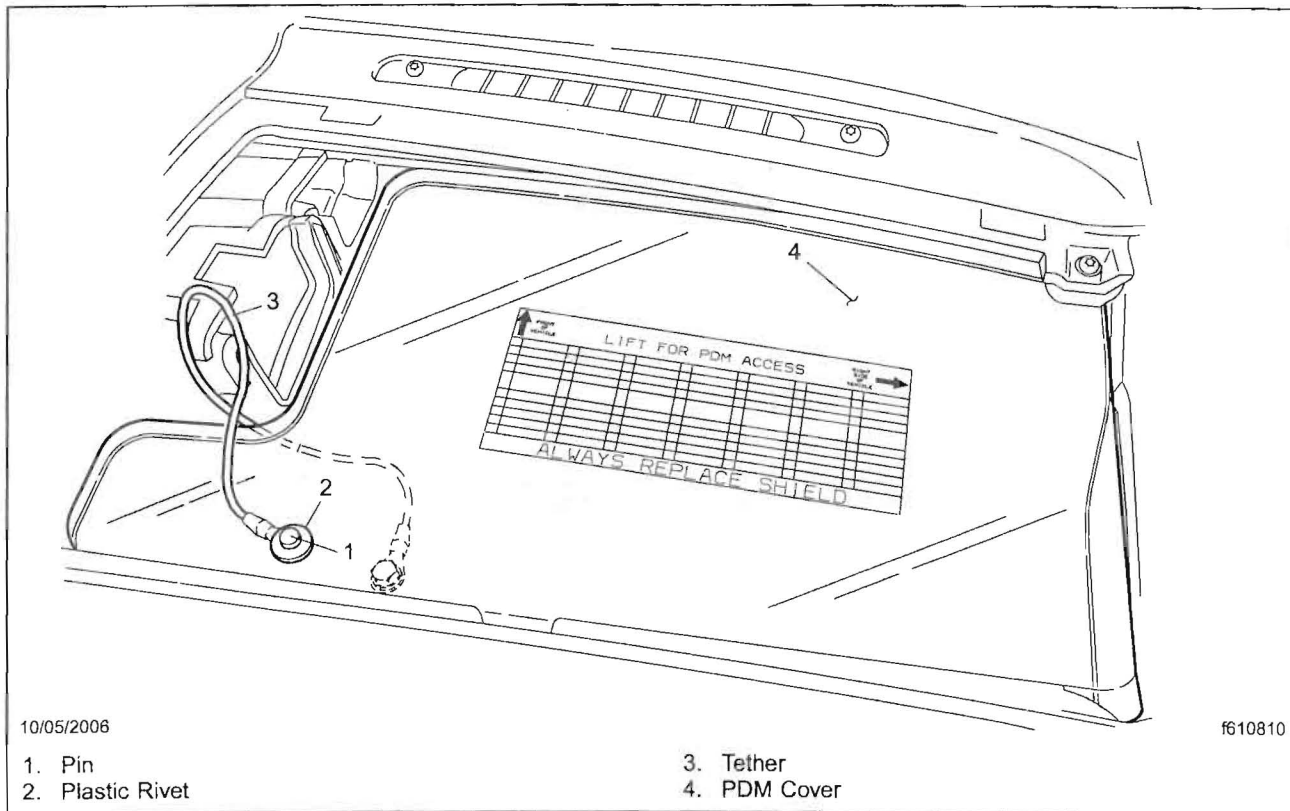
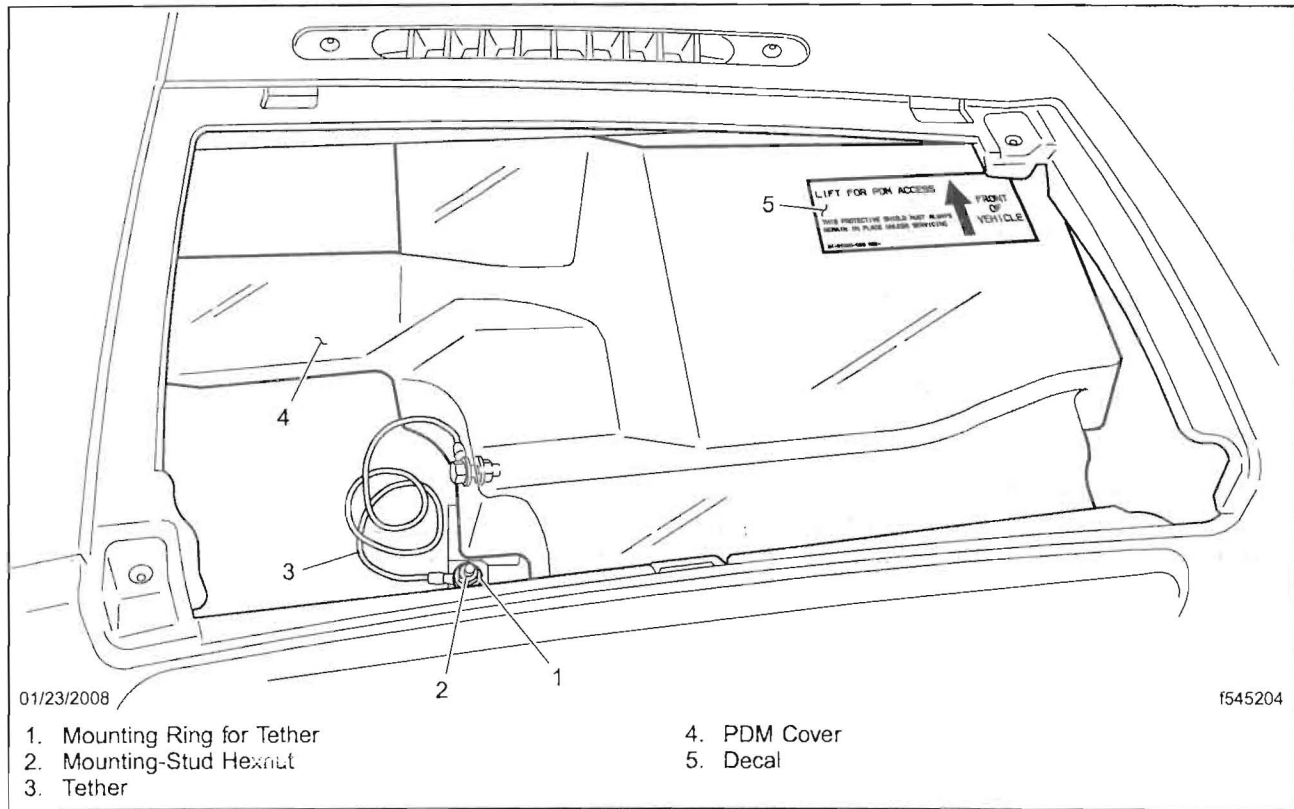
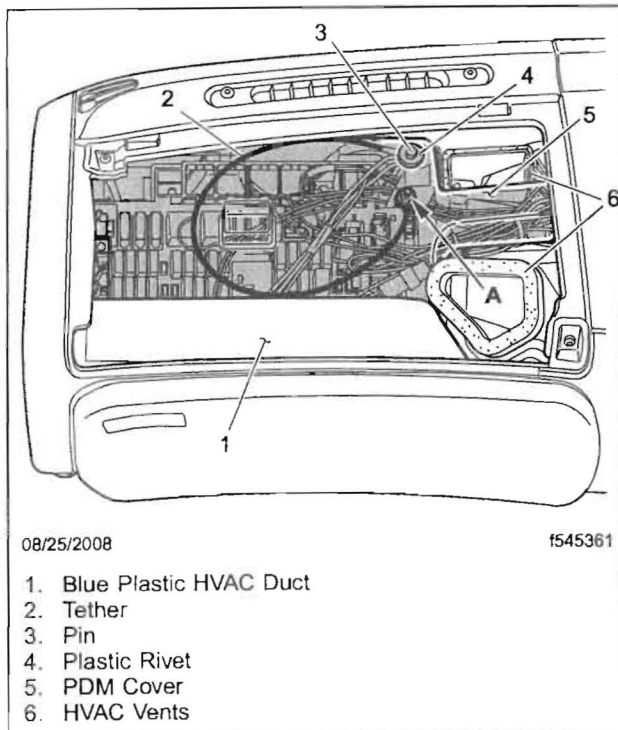

Fig. 5, PDM Cover Installation, Century Class, Columbia, and Coronado Vehicles (left-hand drive)
Fig. 6, PDM Cover Installation, Argosy Vehicles (left-hand drive)
Fig. 7, PDM Cover Installation (right-hand drive vehicles)
2. Position the new cover over the PDM. The cover must be positioned outboard as far as possible to completely cover the battery terminals. The inboard side of the cover should be flush against the HVAC duct, but not under it. See Fig. 5, Fig. 6, and Fig. 7.